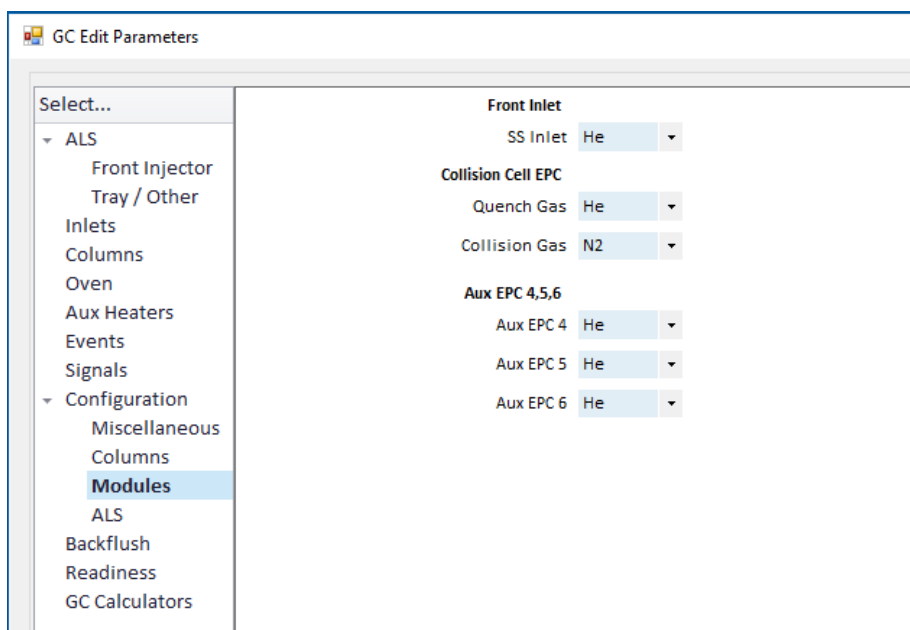

Figure 34. Configure CC gas
- 3 Click the **Configuration** icon, then select the **Modules** tab to display the screen. (See **Figure 34.**)